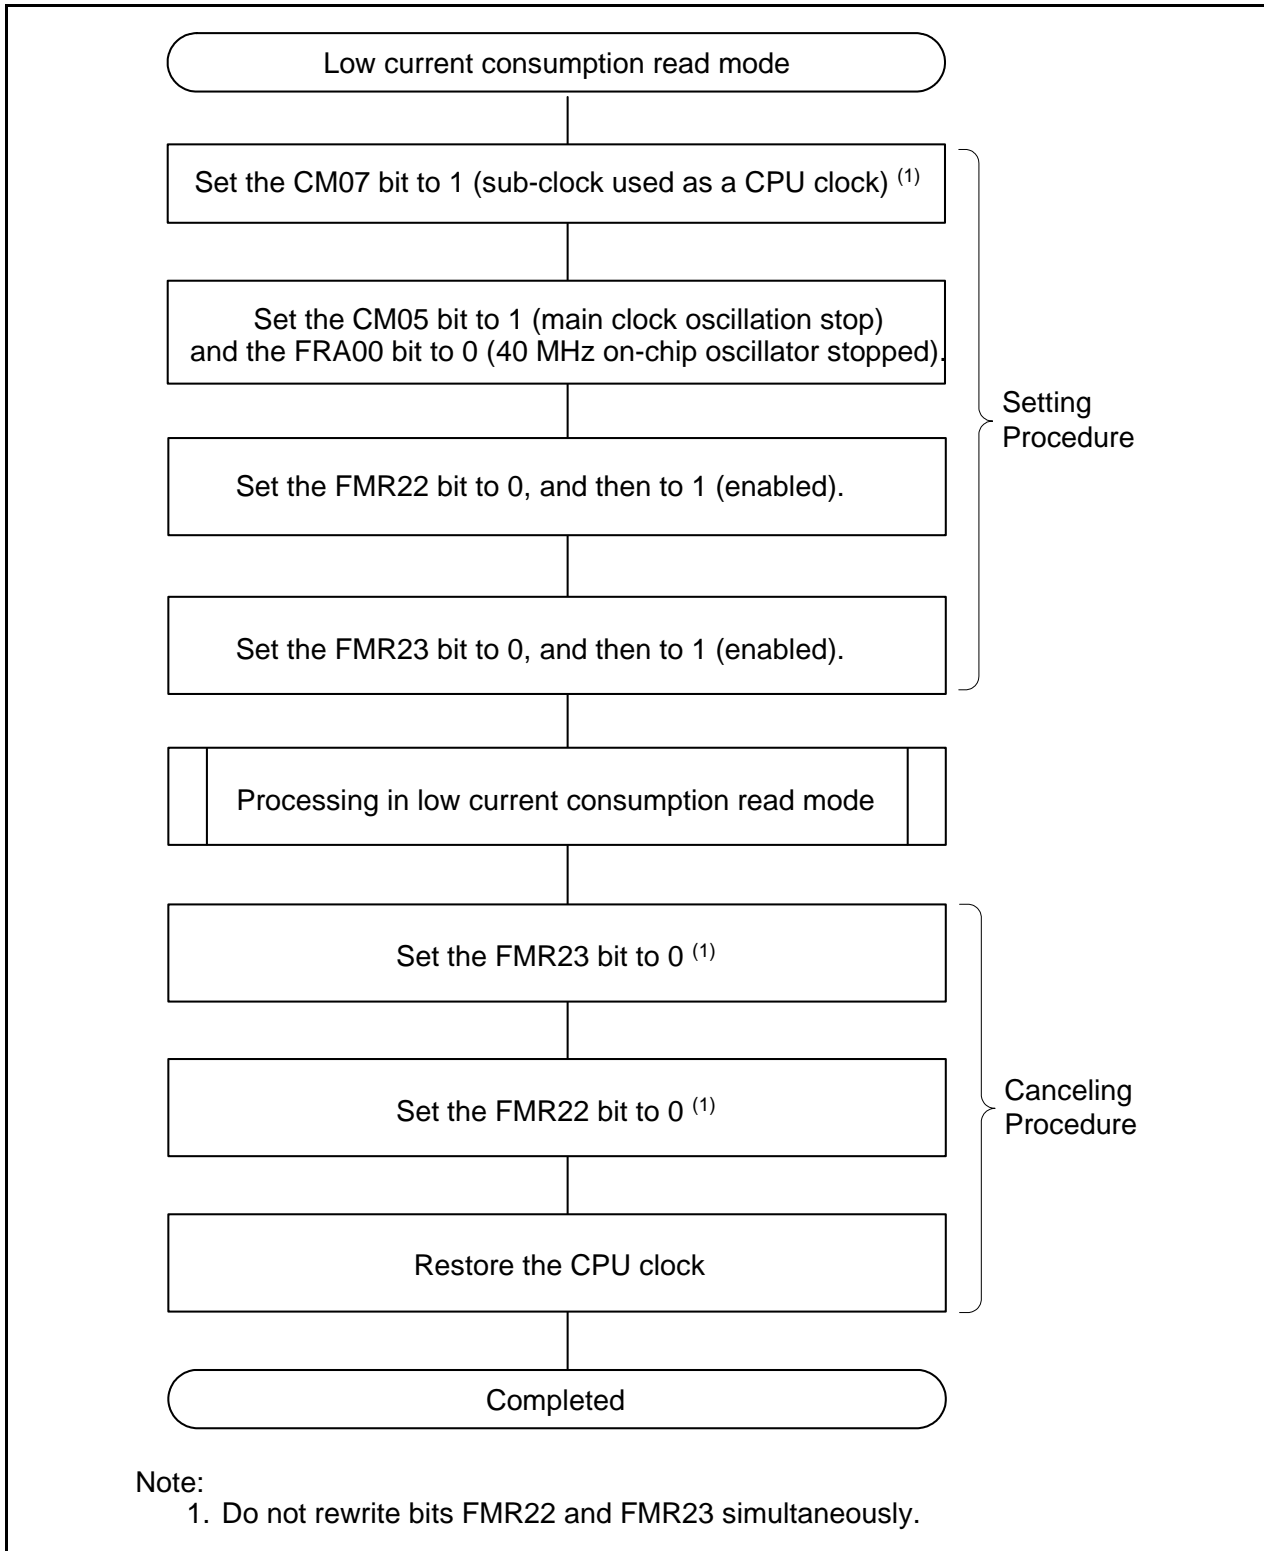

Figure 9.4 Setting and Canceling of Low Current Consumption Read Mode
Low current consumption read mode can be used when the CM07 bit in the CM0 register is 1 (sub clock used as CPU clock). Figure 9.4 shows Setting and Canceling of Low Current Consumption Read Mode.
- Enter low current consumption read mode through slow read mode (refer to Figure 9.4 “Setting and Canceling of Low Current Consumption Read Mode”).